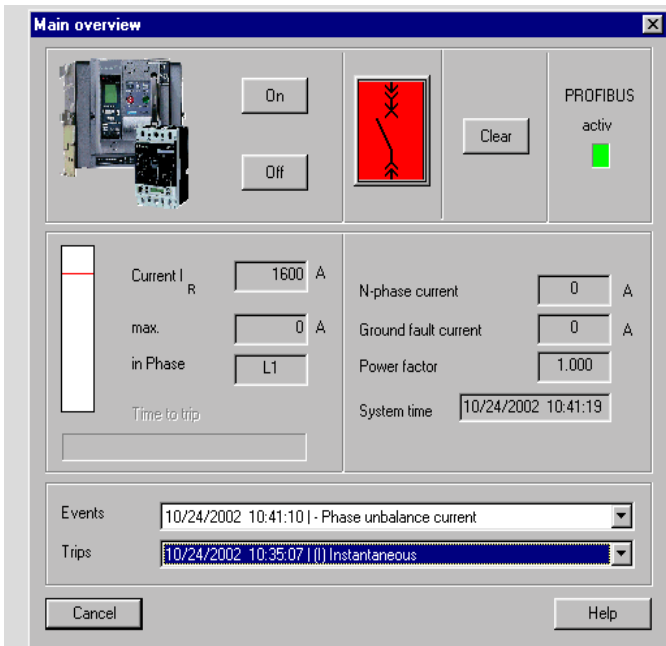

Fig. 5-7 The "Main Overview" window displays all the key information on the SENTRON circuit-breaker.
- The "Trips" tab page (see Fig. 5-7) displays the last trip (if it has not yet been acknowledged).